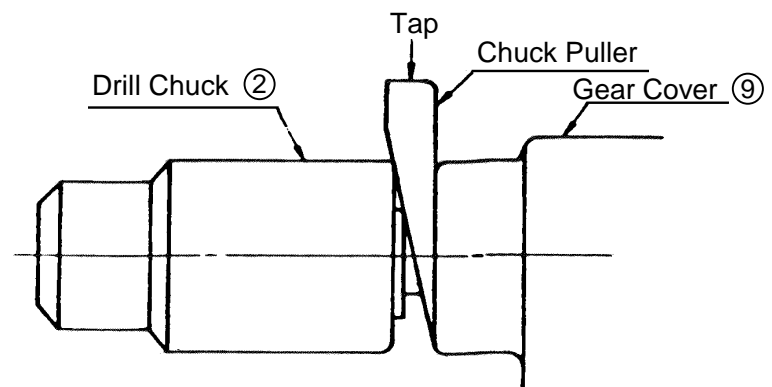

Fig. 7-2
The Drill Chuck (2) is fastened to the Spindle (3) by a #6 Jacobs Taper. As illustrated in Fig. 7-2, insert the Chuck Puller (J-20, 22 fitting...for 10G,13G and 16G) between the Drill Chuck and Gear Cover, and tap it lightly with a hammer to remove the Drill Chuck.